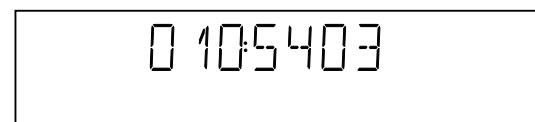

Fig. 34
The loop test will perform the same nuclei as the dealer test, but it will loop through the list of nuclei indefinitely. The display of the DVD player will display not only the three digits indicating correct/faulty modules and the last found error code (as mentioned, faults are detected as far as they can be within the scope of the diagnostic software), but also a loop counter indicating how many times the loop has been gone through. If an error was detected, the display will remain as in Fig. 34 until the user presses the PLAY key and then it will continue to the next loop.
After one loop cycle: Display the 3-digit module bits together with the last error code which occurred in the loop test. The 4 digits at the right side of the display (Fig. 34) show the last error that was found during the loop test. The leftmost two digits (54) of this code indicates which nucleus resulted in a fault. The rightmost two digits (03) refer to the faultcode within that nucleus. For further explanation of this error code, refer to chapter 8 (Nuclei Error Codes).